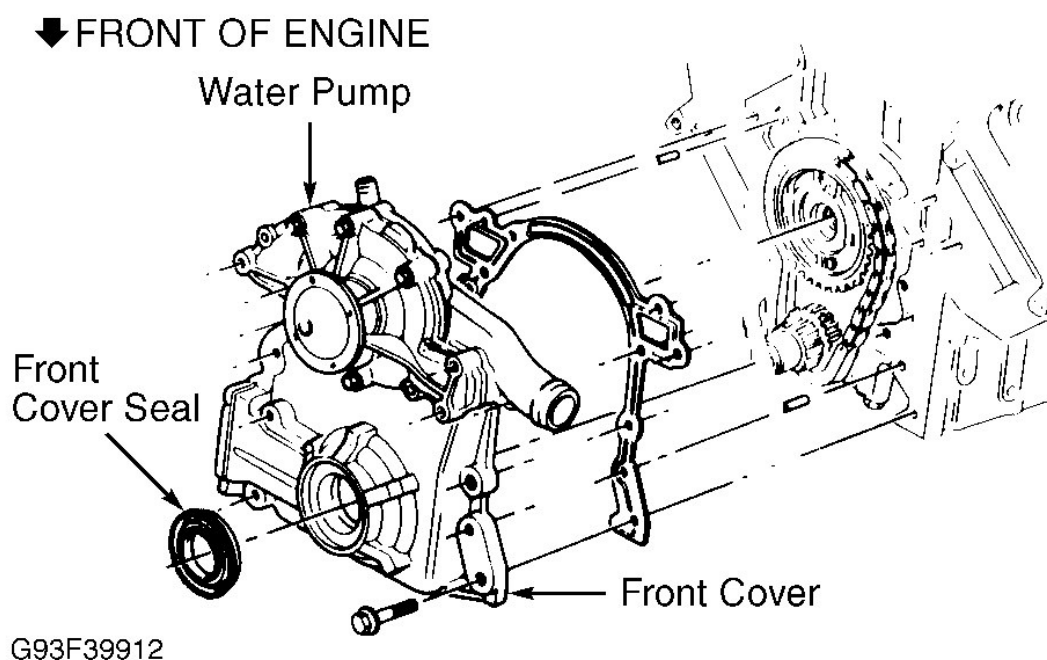

Fig. 11: Removing Front Cover
3. Remove bolts securing front cover to oil pan. Remove power steering pump (leave hoses attached). Remove remaining bolts, front cover and gasket. See **Fig. 11**.